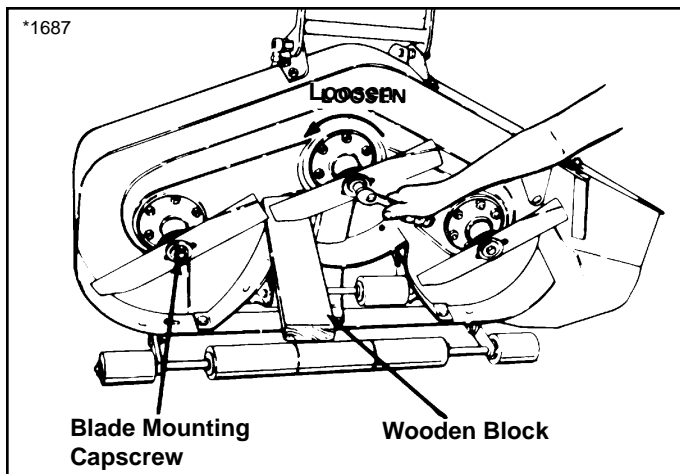

Figure 21. Removing The Blade
3. To remove blade for sharpening, use wooden block to hold blade while removing the blade mounting cap-screw (figure 21).